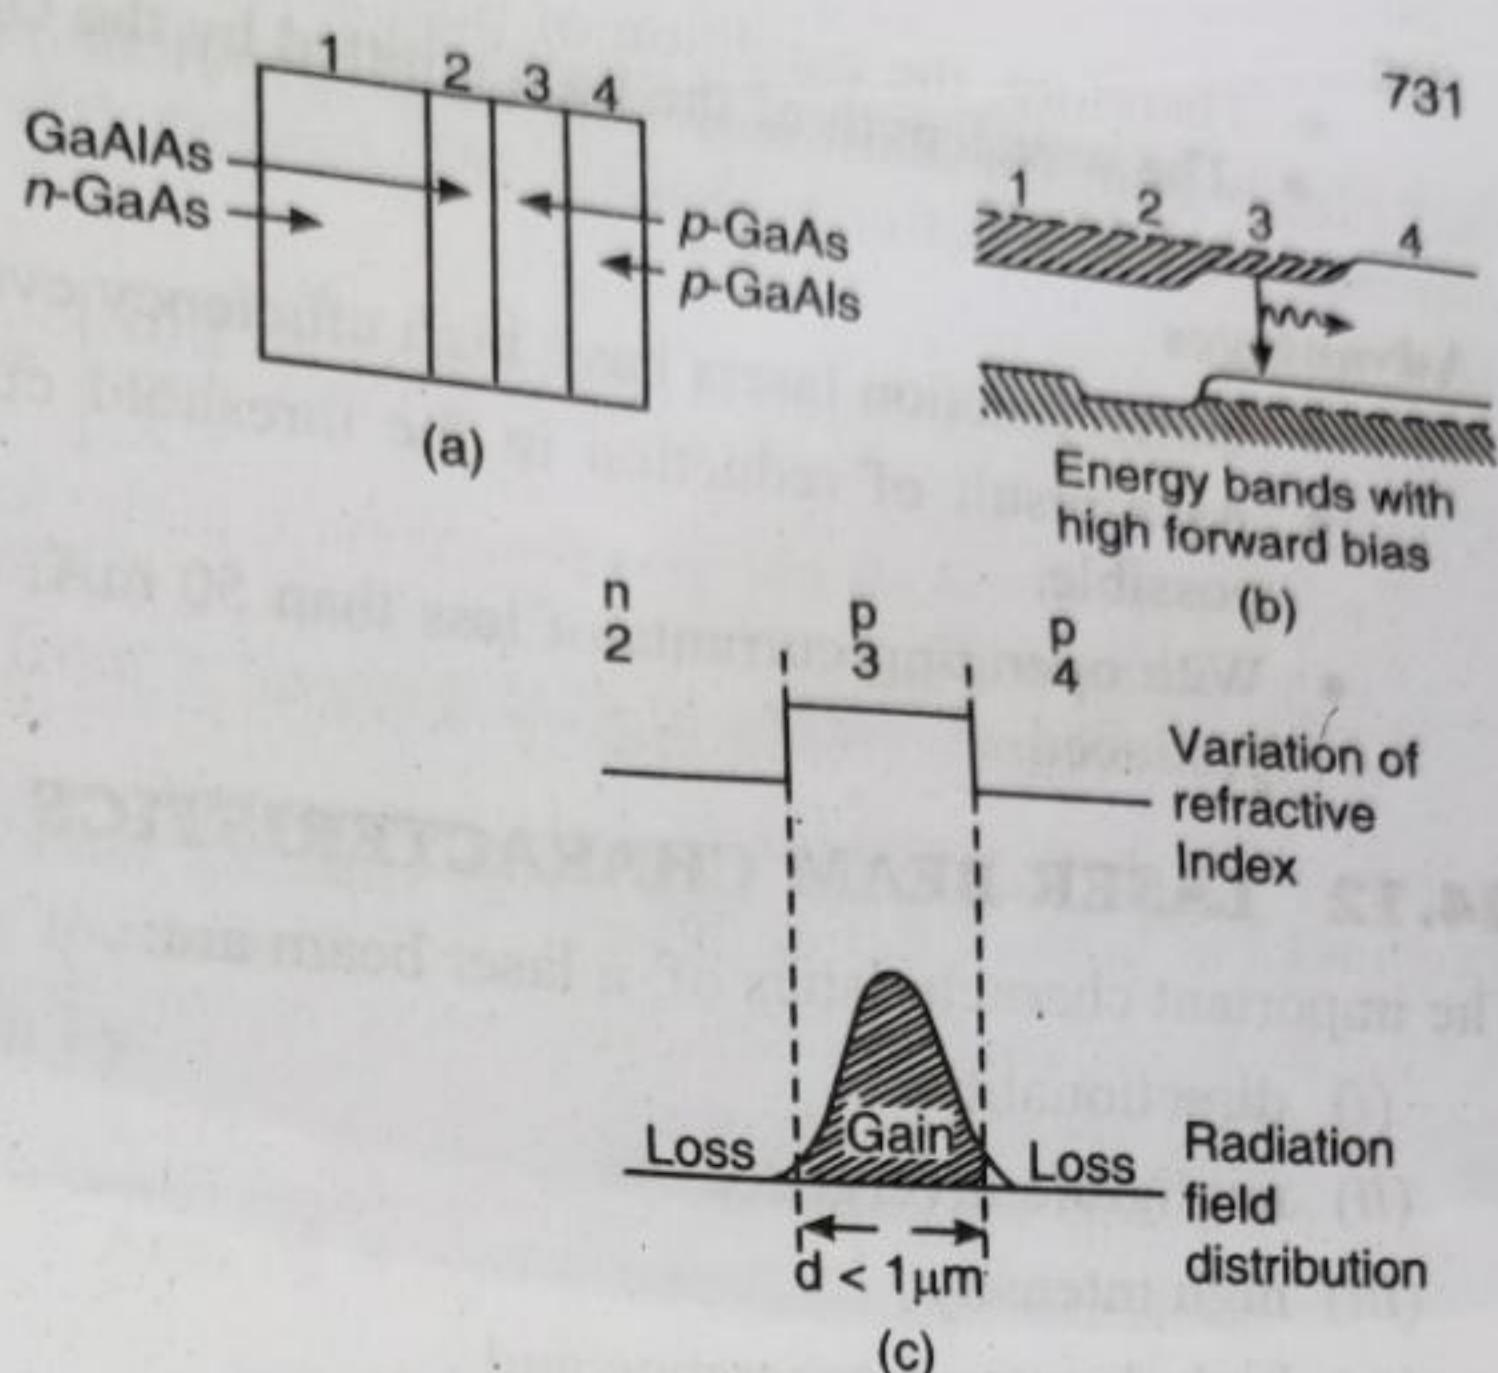

Fig. 24.28
- This layer is flanked by an n-type wide band gap GaAlAs layer on one side and by a p-type wide band gap GaAlAs layer on the other side (Fig. 24.28 a).